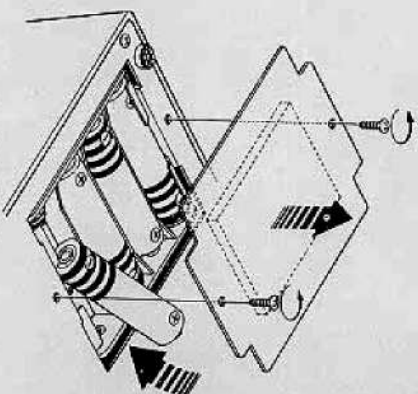

Fig. 2 Battery installation
The MC-85 employs a standard 8-pin plug for connection. When connecting the microphone to a mic jack other than 8-pin, use an adaptor plug. Fig. 2 shows the internal wiring connection. Table 1 shows the relationship between the microphone and Kenwood equipment.
(1) Obtain four (4) common "AA" cells.
(2) Remove the lid as shown in Fig. 2. Install the batteries observing correct polarity. Replace the lid.
(3) After the batteries are installed, place the POWER switch ON and verify that the LED lights.